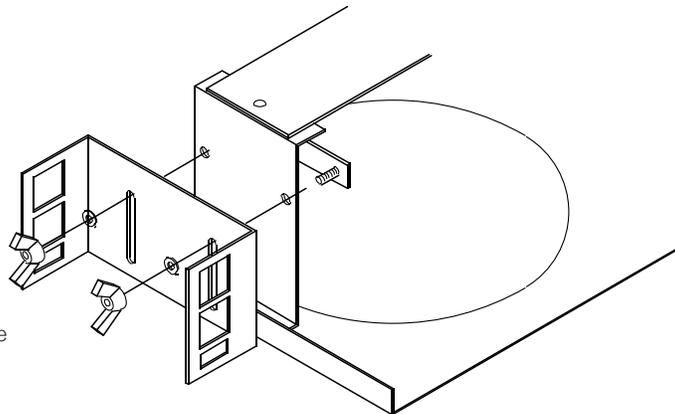

Fig. 1
1. Attach the bar hanger brackets to the vertical support brackets on the rough-in assembly. The wing nuts should be on the outside of the bar hanger bracket with the stud plate on the inside nearest the aperture. See Fig. 1